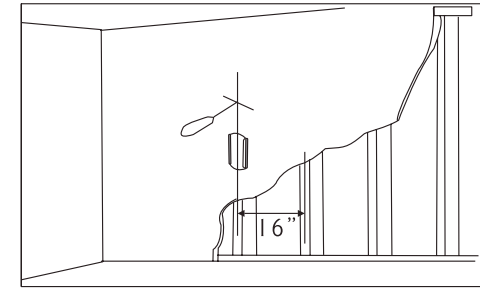
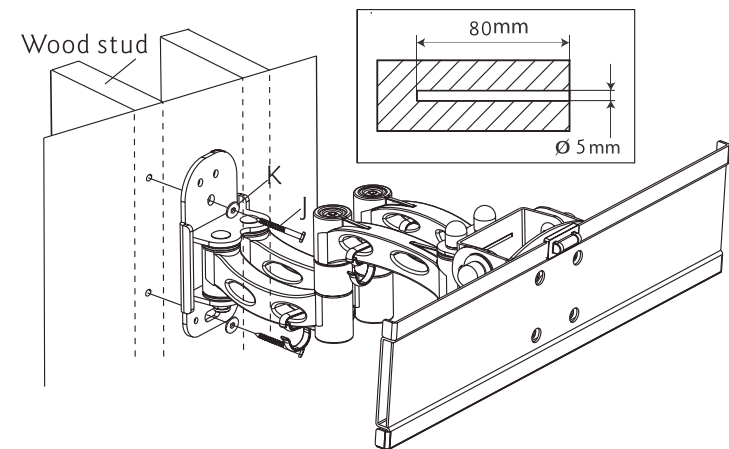

Fig. 2b
Fig. 2c
Using a awl or nail to make where the nails are located, as shown as Fig.2b. Pre-drill these holes with a 5mm drill bit to at least 80mm in deep hole. Use wall mount as a template to mark the location of other hole and drill the same holes. Please make sure these holes are level and eudipleural. Fix the wall mount to the wall with 2 long bolts (J) and washers(K) (Fig.2c).